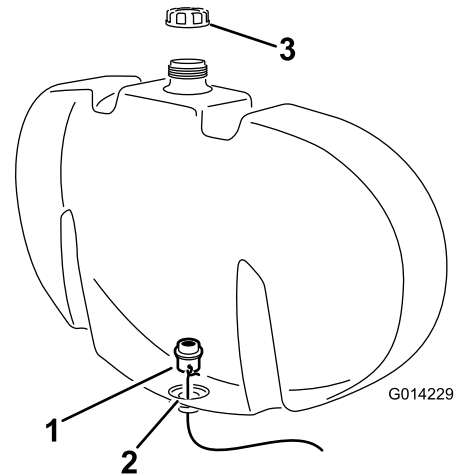

Figure 7
- E. Use the wire to guide the bulkhead fitting to the open hole at the bottom of the tank (Figure 7).
- F. Move the bulkhead fitting into position making sure that the clear gasket seats against the interior wall of the rinse tank (Figure 7).